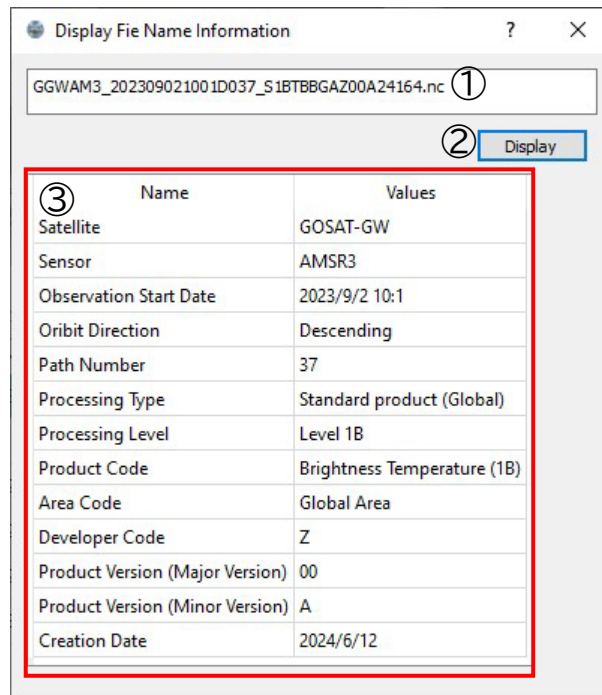

Figure 13-2 Explanation of File Name Information Display Operation
In the file information display screen shown in Figure 13-2, enter the file name of the AMSR3 product in the text box and click the "Display" button to show the information contained in the file name.
Table 13-1 provides descriptions and actions for items ① to ③ in Figure 13-2.